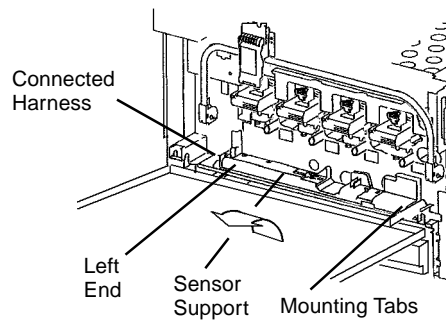

Figure 1 Accessing Waste Cartridge Full Sensor
4. Access Waste Cartridge Full Sensor (Figure 1).